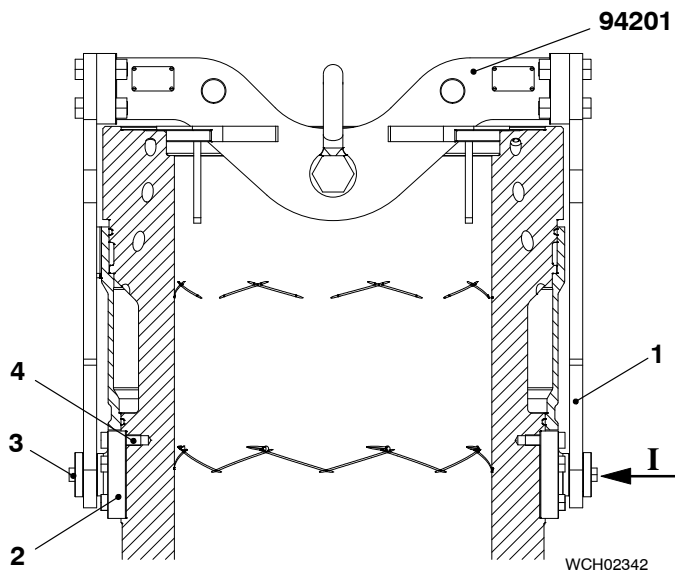

Fig. 3
- 1) Put the two flange couplings (2, Fig. 3) in position on the cylinder liner.
- 2) Tighten the five screws (4) in each flange coupling.
- 4) Apply copper paste to the threads of the special screws (3).
- 5) Attach the two holders (1) to the flange couplings (2) with the special screws (3).
- 6) Torque the special screws (3) to 230Nm.
- 1) Remove the two special screws (3, Fig. 3).
- 3) Remove the special screws (3), then remove the two flange couplings (2).